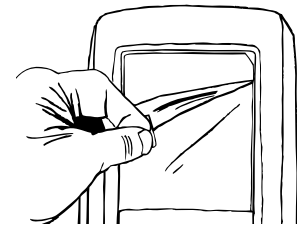

Figure K-4
- Peel back Tab 2 all the way to remove the backing, which also removes the alignment tool (see Figure K-4). The screen protector is now in place.